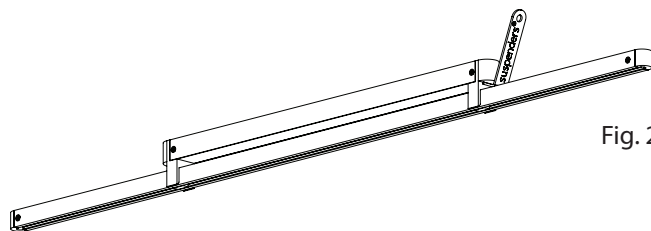

Fig. 2
1. Place the Light Bar Removal Tool underneath the end of the Light Bar. (Fig. 2)